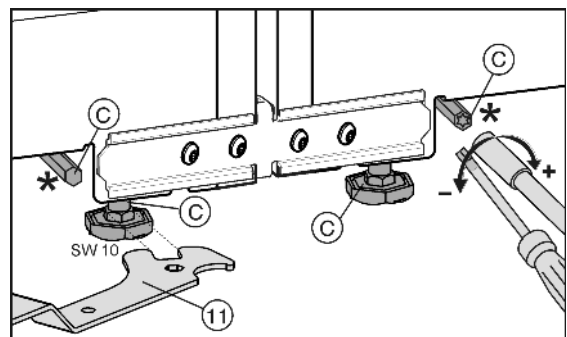

Fig. 26
The front adjustment feet can be adjusted with the supplied open-end wrench *Fig. 26 (11)* and the rear adjustment feet\* with a 1/4" bit attachment.